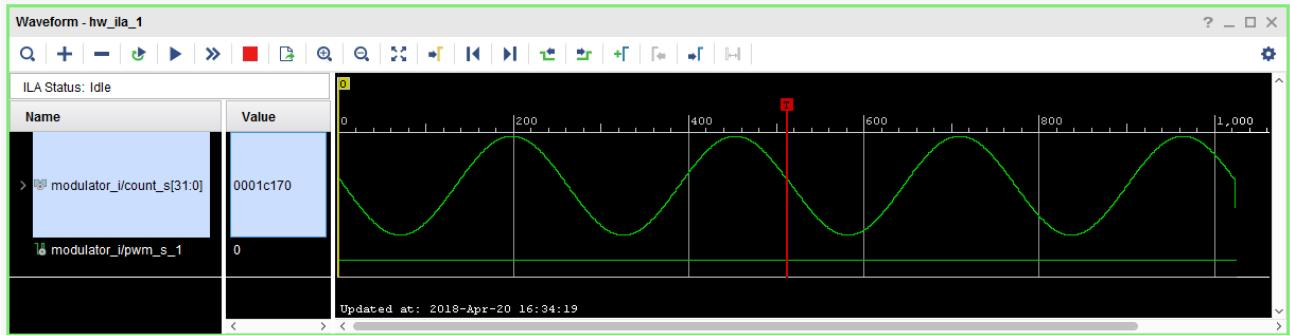
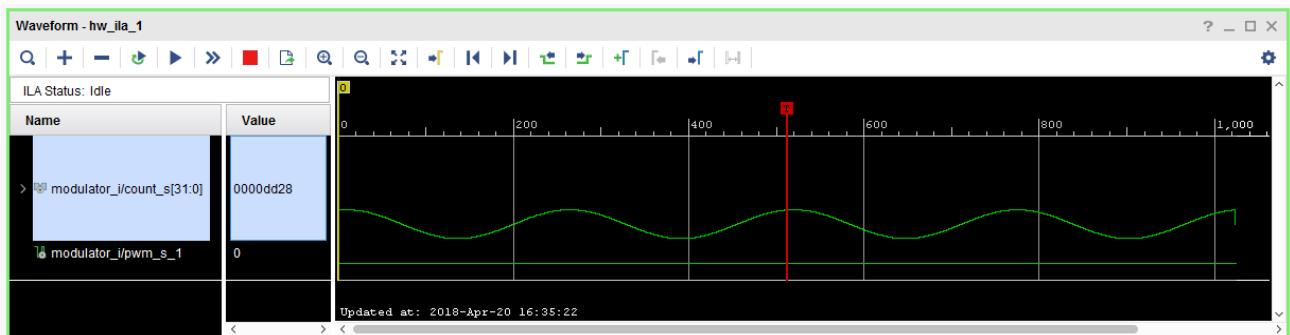

Figure 11.43: Captured waveform of the sine signal, when $\text{sw0}=0$
Figure 11.44: Captured waveform of the sine signal, when $\text{sw0}=1$
Once the ILA core captured data has been uploaded to the Vivado IDE, it is displayed in the **Waveform Viewer**, see Figure 11.43.
Note: After triggering the ILA core, in the waveform viewer change the **count_s_0** **Waveform Style** from **Digital** to **Analog**, and your captured waveform should look like as the waveform on the Figure 11.43.
13. Arm the trigger ones more and after triggering the ILA core your captured waveform should look like as the waveform on the Figure 11.44.
Note: By comparing the waveforms shown on Figures 11.43 and 11.44 we can observe that they differ in the amplitude value. This is expected since the waveforms actually represent the width of the PWM pulse generated by the modulator module. Since the frequencies of two generated PWM signals differ (one has a frequency of 1 Hz and the other of 3.5 Hz) and the PWM pulse width measurement module always uses the same frequency for measuring the duration of the PWM pulse, when the PWM frequency increases the duration of the PWM pulse will decrease, therefore decreasing the amplitude of the output signal of the PWM pulse width measurement module.
To be able to capture at least one period of the sine signal and to store it in the ILA buffer, we have to use capture condition feature. After triggering the ILA core, in the waveform viewer change the Waveform Style from Digital to Analog and your captured waveform should look like as the waveform on the Figure 11.43 or Figure 11.44.